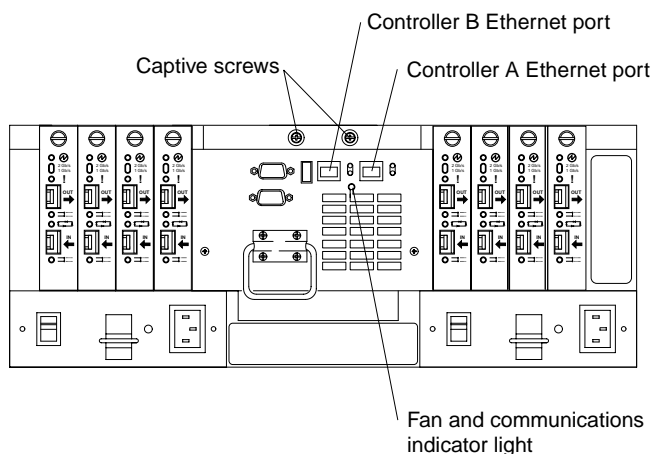

Figure 41. Fan and communications module ports and indicator light
5. Check the fan and communications indicator light. See Figure 41 on page 43 for the location of the fan and communications indicator light.